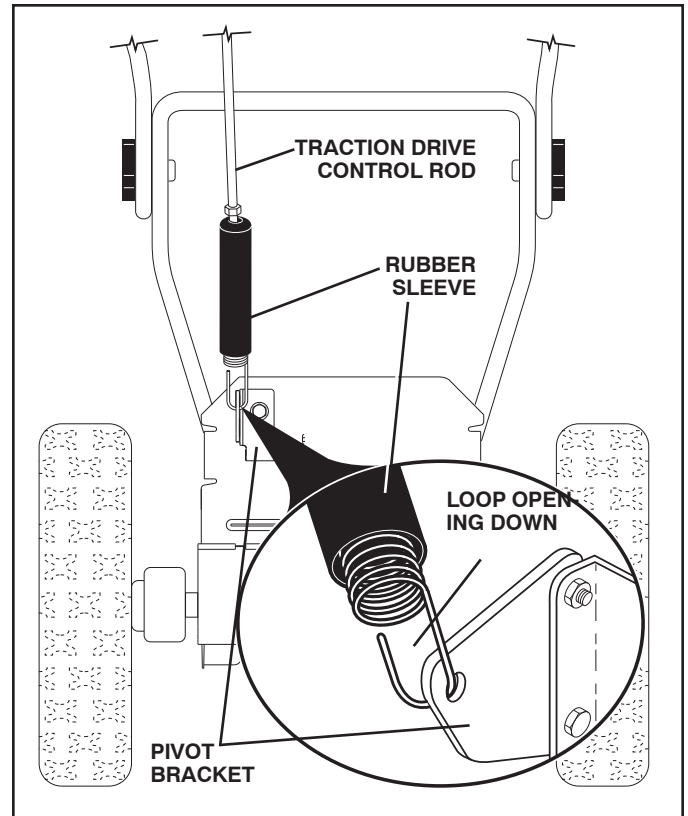

FIG. 3
2. Insert rod into speed control bracket and secure with retainer spring. install traction DRIVE control rod (See Figs. 3 and 4)